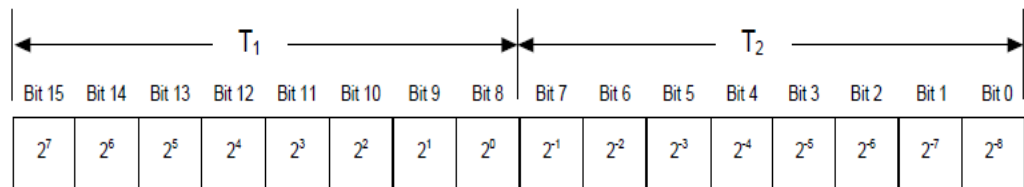

Figure 5-2 Converting Temperature Output to [°C]
2) Temperature output [°C] =  $\frac{T_1 \cdot 2^8 + T_2}{2^8}$  ? See Figure 5-2 for data bit format.